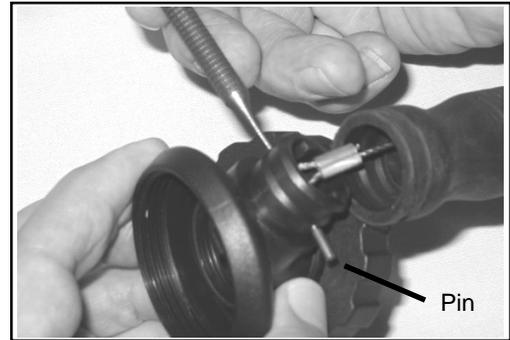

Fig. 4
9. If necessary to remove the CORRUGATED AIRWAY HOSE (8) and RAPID EXHAUST CABLE with Arm (6) from the UPPER HOUSING ASSEMBLY (4) proceed as follows:
a. Being careful to avoid damaging the CORRUGATED AIRWAY HOSE remove the TIE WRAP (7) from around the HOSE and pull the HOSE off and away from the UPPER HOUSING ASSEMBLY.
b. Using a 3/32" drift pin punch, press or lightly tap out the RAPID EXHAUST PIN (5) that secures the RAPID EXHAUST CABLE with Arm in the UPPER HOUSING ASSEMBLY (Fig. 4).